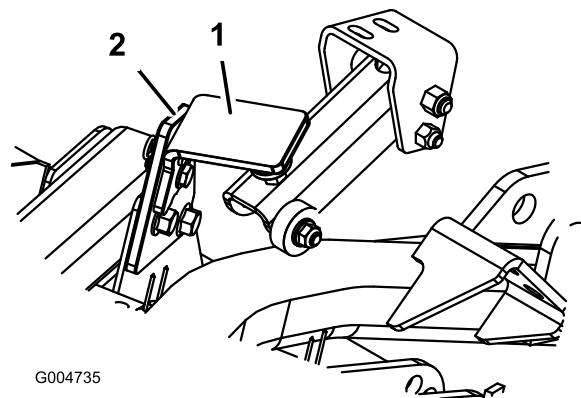

Figure 76
2. Remove the hairpin cotter and clevis pin securing the deck transport latch to the latch plate (Figure 76). Pivot latch toward rear of deck.